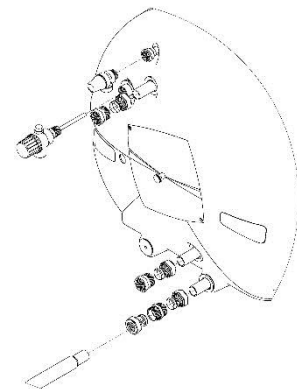
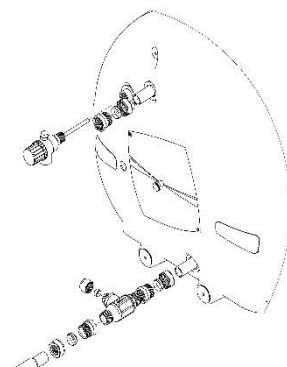

Figure 6.11 Tank End - Closed Circuit
Figure 6.12 Tank End - Open Circuit
29. For closed circuit models, insert the 100 kPa closed circuit pressure relief valve into the $\frac{1}{2}$ " tank socket (Figure 6.11). Note this valve is not used on open circuit models.
30. For a closed circuit model, slide an Rp $\frac{3}{4}$ " compression union onto the cold inlet of the tank (Figure 6.11). Tighten the assembly taking care not to twist the copper tube on the tank.
31. To complete the cold pipe connection, slide the appropriate fitting onto the remaining connection pipe. For an open circuit model, this will be the compression union on the TAV (Figure 6.12). For a closed circuit, this will be a 22mm compression union onto the closed circuit connection (Figure 6.11). Tighten the assembly taking care not to twist the copper tube on the tank.